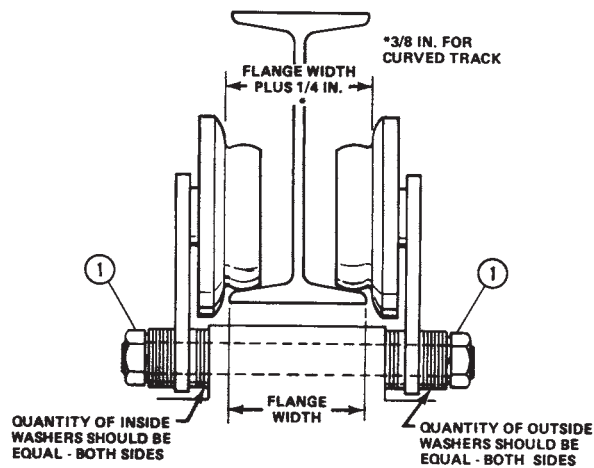

Figure 1. Proper Wheel Spacing
- Determine proper spacing for trolley side plates so that adequate wheel clearance (approximately 1/8") is provided on both sides of I-beam, between inside faces of wheel flanges and edges of bottom beam flange. Proper spacing is obtained by varying the number of spacer washers (furnished with trolley) installed on suspension cross pins between suspension lug and trolley side plates (Figure 1).
- a. First measure the exact width of bottom flange on runway beam, and then add 1/4" to that measurement (3/8" for curved beam). The total is the required distance between inside faces of wheel flanges to obtain satisfactory wheel operating clearance. See Figure 1.
- e. When wheel spacing is correct, remaining spacer washers are to be installed on outside ends of suspension pins (see note below) and the pins then secured with lockwashers and hex nuts. The nuts (1, Figure 1) should not be completely tightened until after hoist and trolley are mounted on runway beam.
- b. If trolley cannot be slid over end of beam, remove hex nuts (1, Figure 1), lockwashers and outer spacer washers from pins on one side of trolley. Spread or remove one side plate to facilitate positioning trolley over bottom flange of beam. Reinstall, side plate, outer spacer washers, lockwashers and hex nuts on suspension pins.
After trolley has been installed on beam, make sure suitable stop(s) is secured on open ended beams to prevent trolley from rolling off the beam. (Stops should contact trolley side plates, not wheels.) Make certain that all spacer washers and lockwashers are in place on suspension pins and that hex nuts are tight. Recheck clearance dimension between wheel flanges and beam flanges (Figure 1).